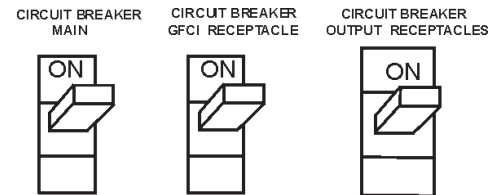

Figure 58. Main and GFCI Circuit Breakers
16. Turn the MAIN, GFCI and LOAD circuit breakers to their ON position (Figure 58).